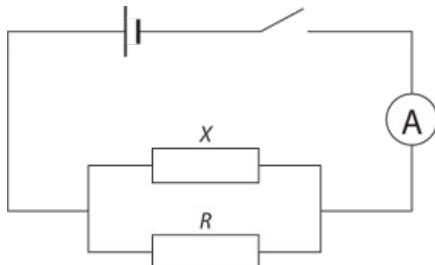

Figure 6.4: Circuit diagram.
- 1 Set up the circuit shown in Figure 6.4. Both resistors X and R should have values of resistance equal to $100\ \Omega$. The multimeter should be set in the range 0–200 mA.